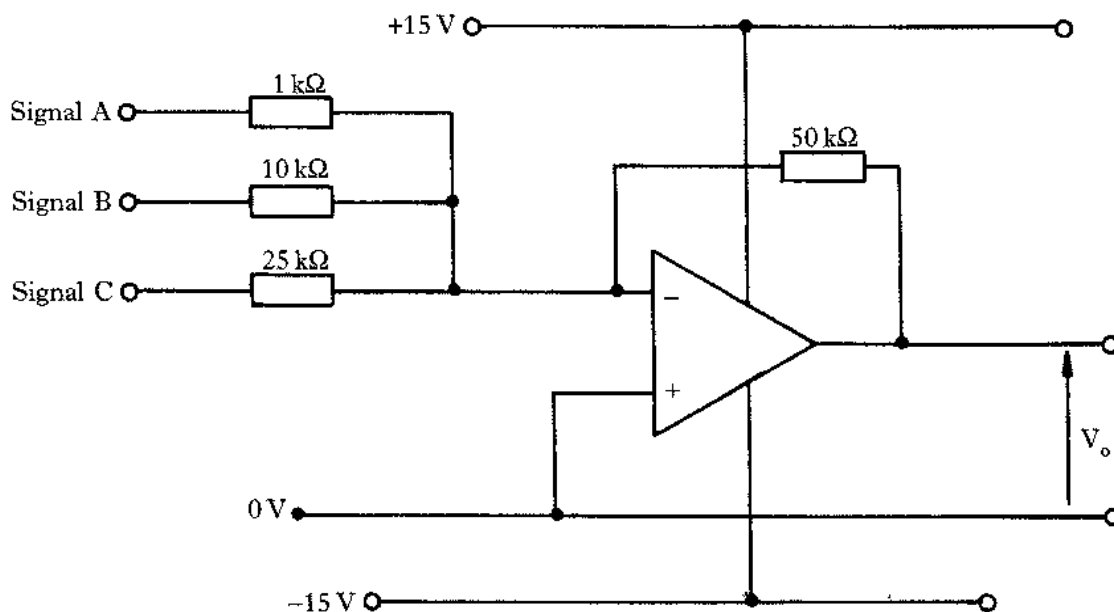

Figure Q11B
- (b) The audio signals shown on the **Worksheet Q11** are mixed using the amplifier shown in Figure Q11B.
- (i) Name the configuration of amplifier shown in the diagram Figure Q11B. 1
- (1) signal A only; 1
- (2) signal B only; 1
- (3) signal C only. 1
- (20)**